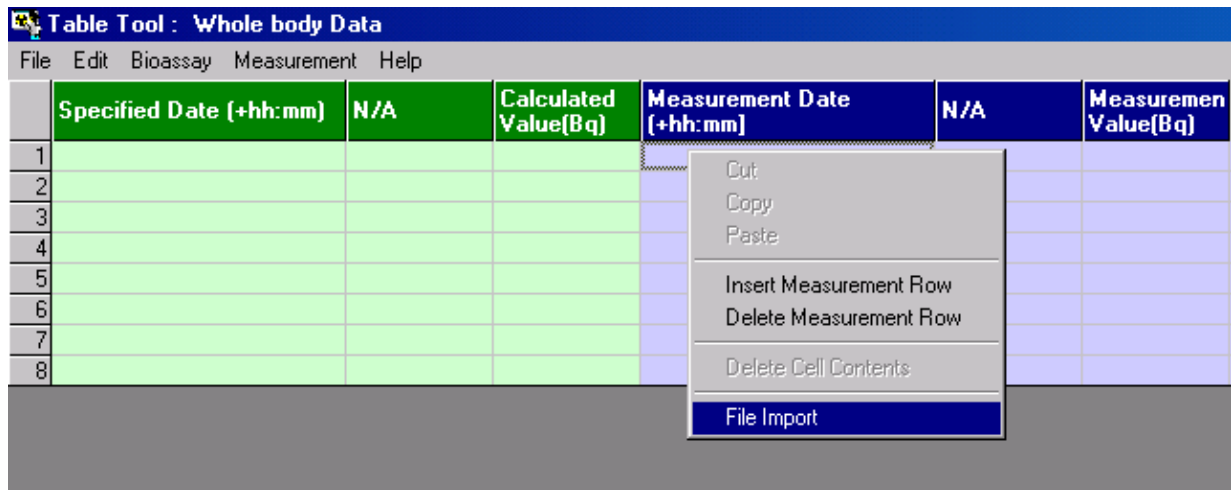

Figure 7.22. "File Import" menu.
- *right-click* on the **destination cell** for your imported text file data (Figure 7.22) - the **"File Import"** menu will appear;